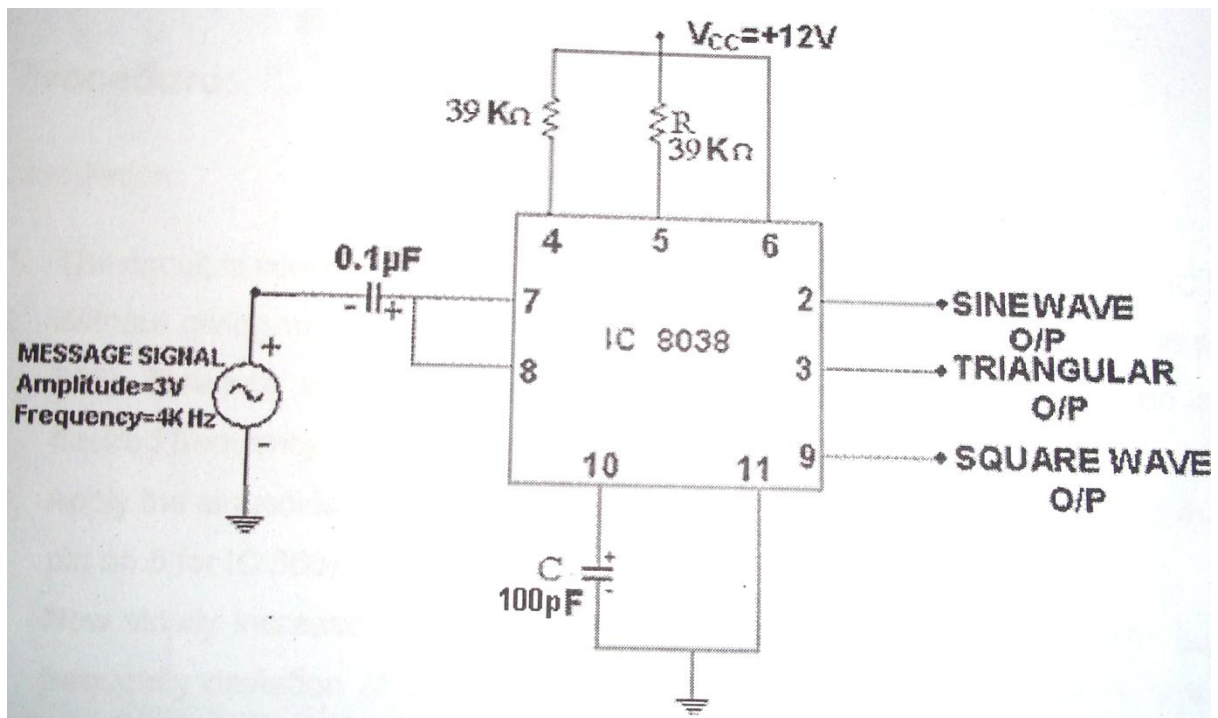

Fig. 2. FM Modulator Circuit using 8038
1. The circuit is connected as per the circuit diagram shown in Fig.2 (Fig.1 For IC 566)